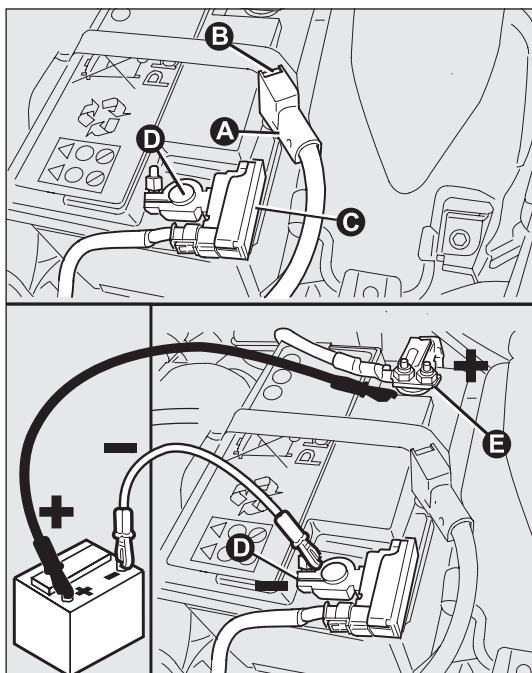

fig. 162
- proceed as follows: detach the connector A-fig. 162 (by pressing button B) from sensor C for monitoring the status of the battery installed on the negative battery pole D;